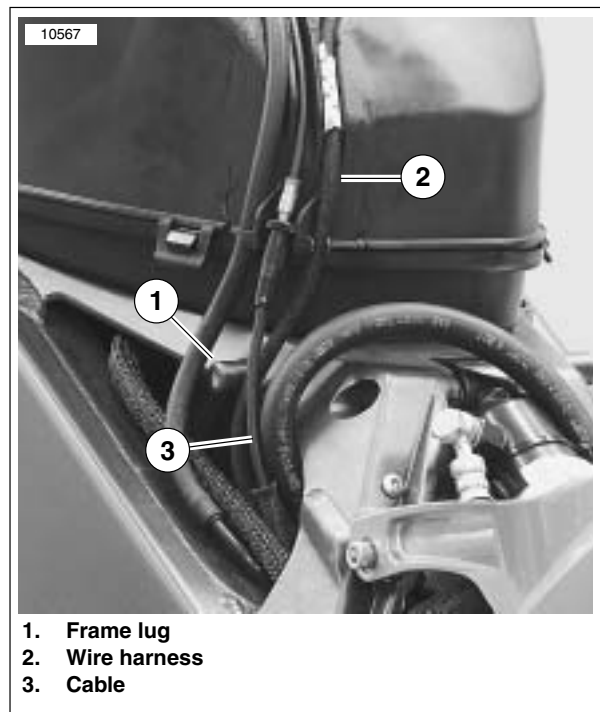

Figure 7-86. Correct Cable Routing Behind Frame Lug (Typical)
3. See Figure 7-86. Verify that the interactive exhaust cable (2) is routed behind the frame lug (1) before installing air intake cover.